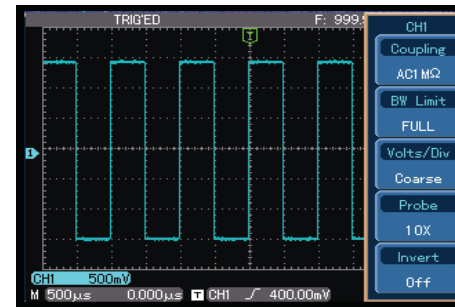

Figure 1-9 Probe compensation signal
③ Connect the probe tip and ground clamp to the connection terminal for the probe compensation signal. Press [AUTO] and you will see a square wave in the display (1kHz, approximately 3V, peak-to-peak value) in a few seconds, as shown in Figure 1-9.